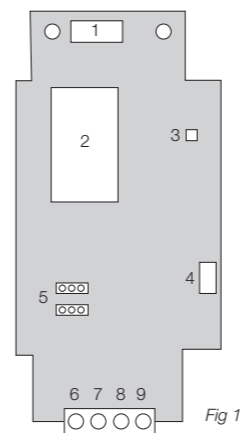

Fig 1
2. Connect the 12V DC power as indicated on circuit board and in fig 1